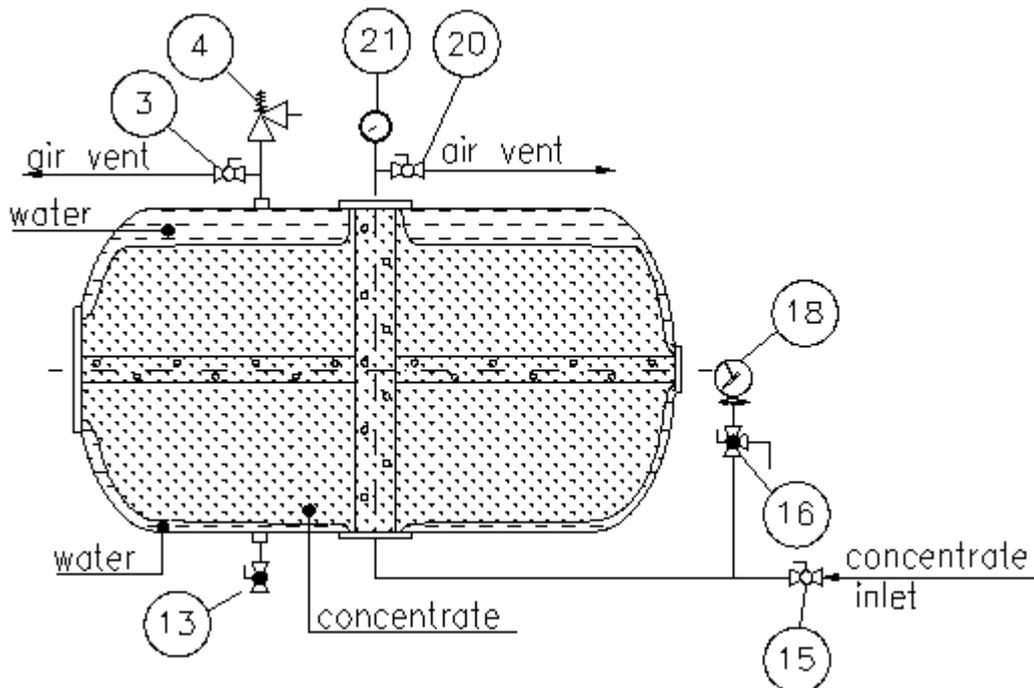

Figure a.8
12. In case of partial filling: (see fig. a.8) stop filling when the correct quantity of concentrate has been introduced always making sure that the pressure is less than 1 kPa at pressure gauge (21).
13. Connect the pump supply hose at valve (13), open it and slowly filling water, until the concentrate outlet trough the vent valve (20) and the water to the valve (3), close the valves (3) and (20).